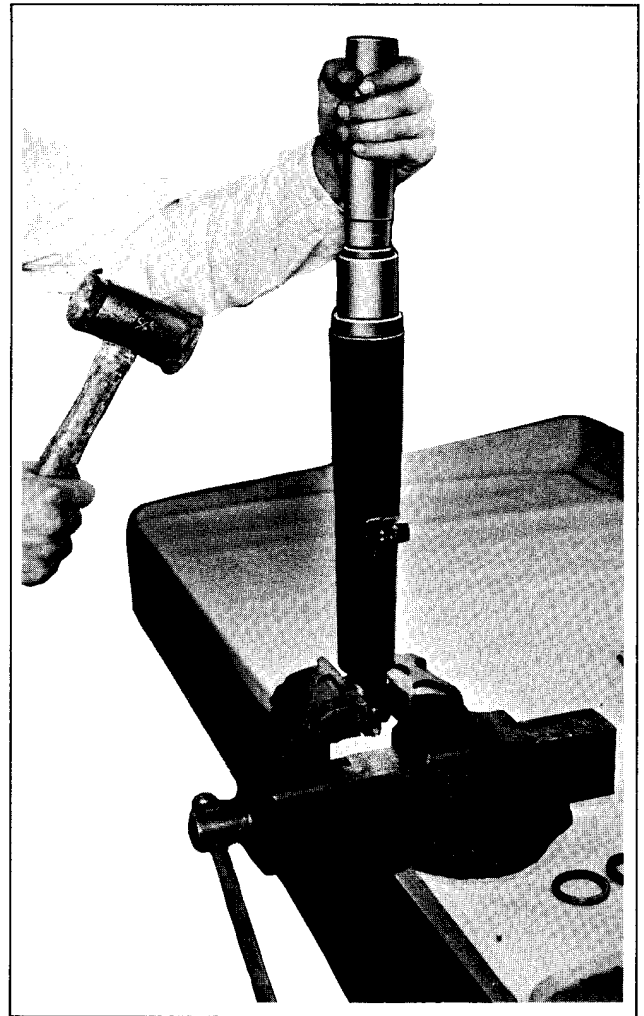

Figure 2-24. Driving in Fork Slider Bushing
1. Wash out fork slider and lubricate slider bore with engine oil. Position new lower bushing in bushing driver guide to compress bushing, then place driver guide with bushing in slider oil seal counterbore as shown in Figure 2-24.